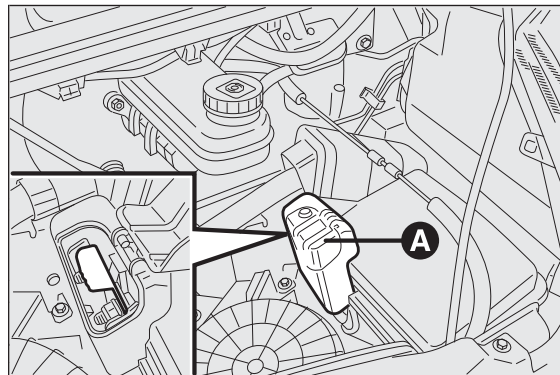

fig. 166
- ☐ raise the flap A fig. 166 to gain access to the positive battery terminal.